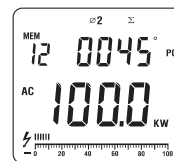

Figure 12
- If necessary, press  $\Sigma$  to get the sum of watts as figure 12.